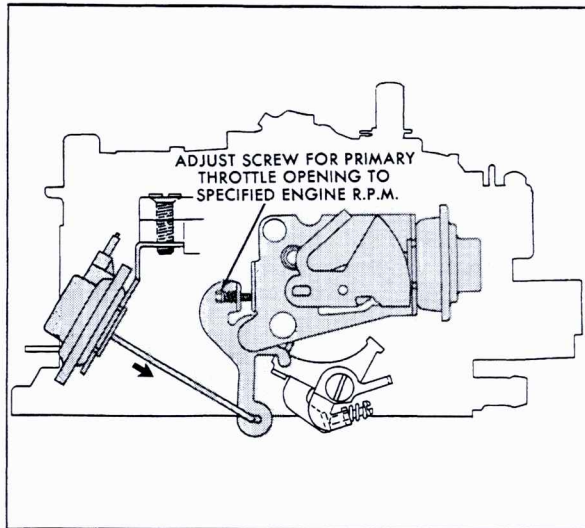

Fig. 6-95 Idle Speed Up Device Adjustment
9. Turning adjusting screw on idle speed-up control arm, Fig. 6-95, to maintain an idle speed of 900-950 rpm.